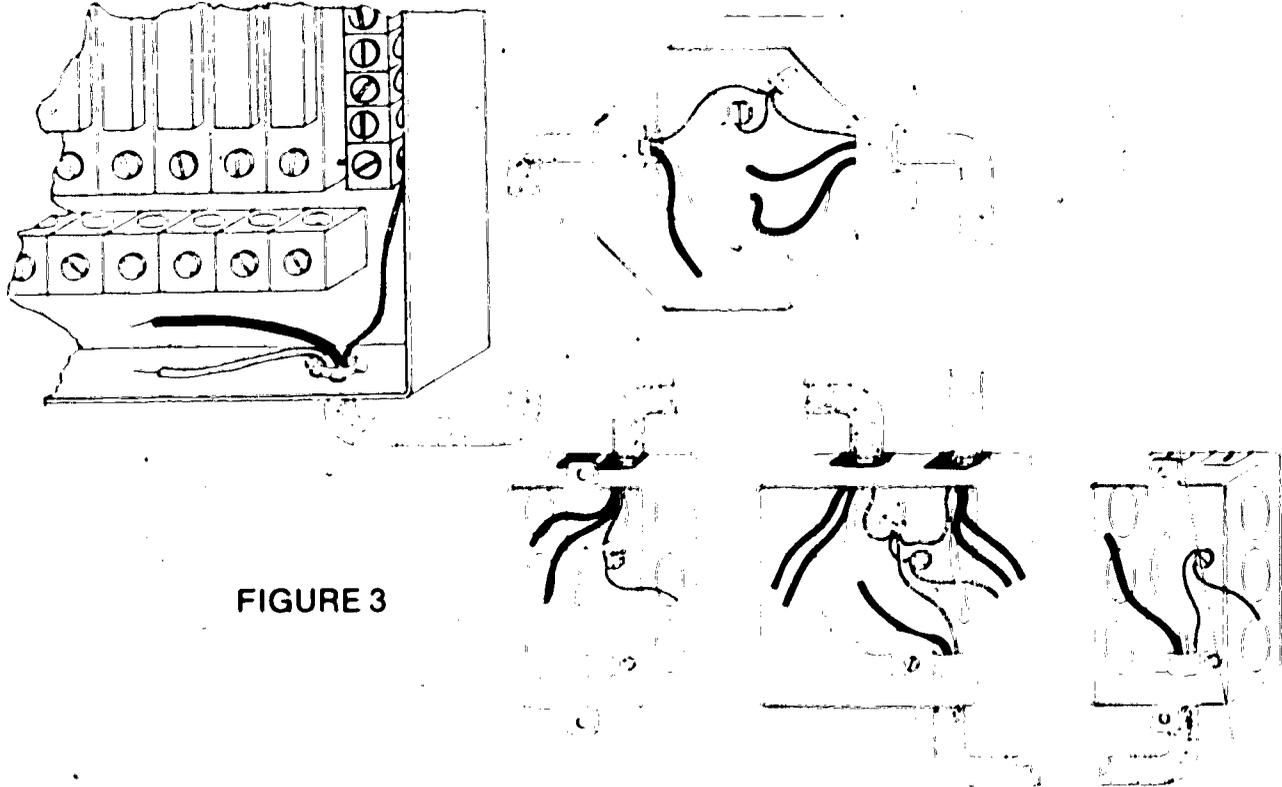

FIGURE 3
J. Connect all grounding conductors (Figure 3)